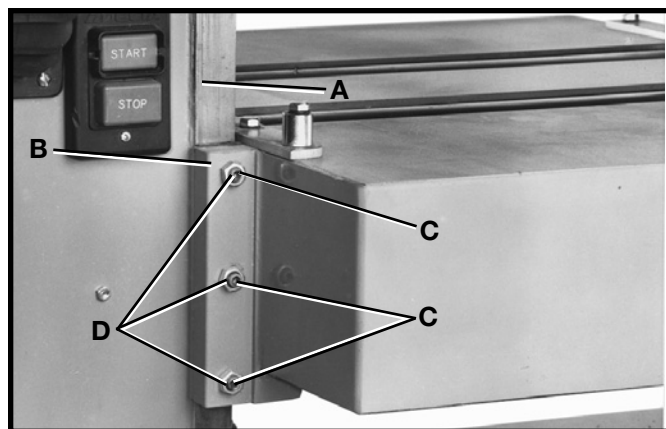

Fig. 54
- With the table in the locked position, and with a feeler gage, measure the gap between table gib (A) Fig. 54 and table bracket (B). When set correctly the gap should be .005 .
- If an adjustment is necessary, loosen three locknuts (C), and turn three adjustment screws (D) Fig. 54, as necessary to set the correct gap.
- Check and adjust the gap on the other side of the table in the same manner. Tighten six locknuts, three of which are shown at (C) Fig. 54, after adjustment is made.